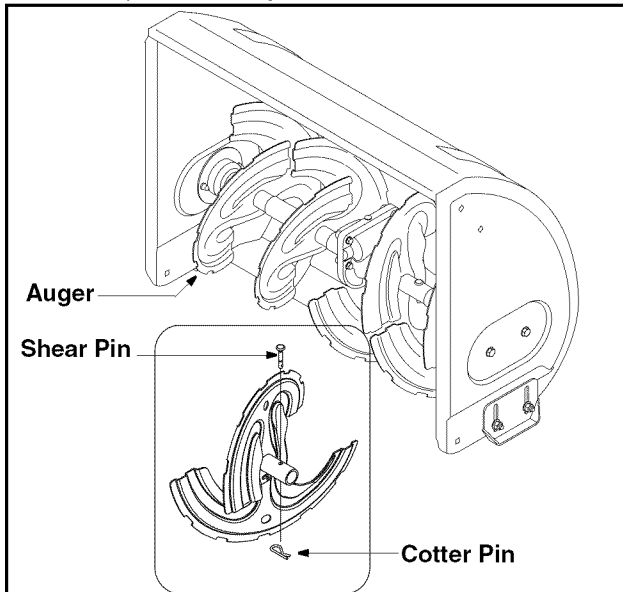

Figure 12
The augers are secured to the spiral shaft with two shear pins and cotter pins. See Figure 12 .
2. Replace the pins if needed. Two replacement shear pins and cotter pins have been provided with the snow thrower. Spray an oil lubricant into shaft before inserting new pins and securing with new cotter pins. See Figure 12.